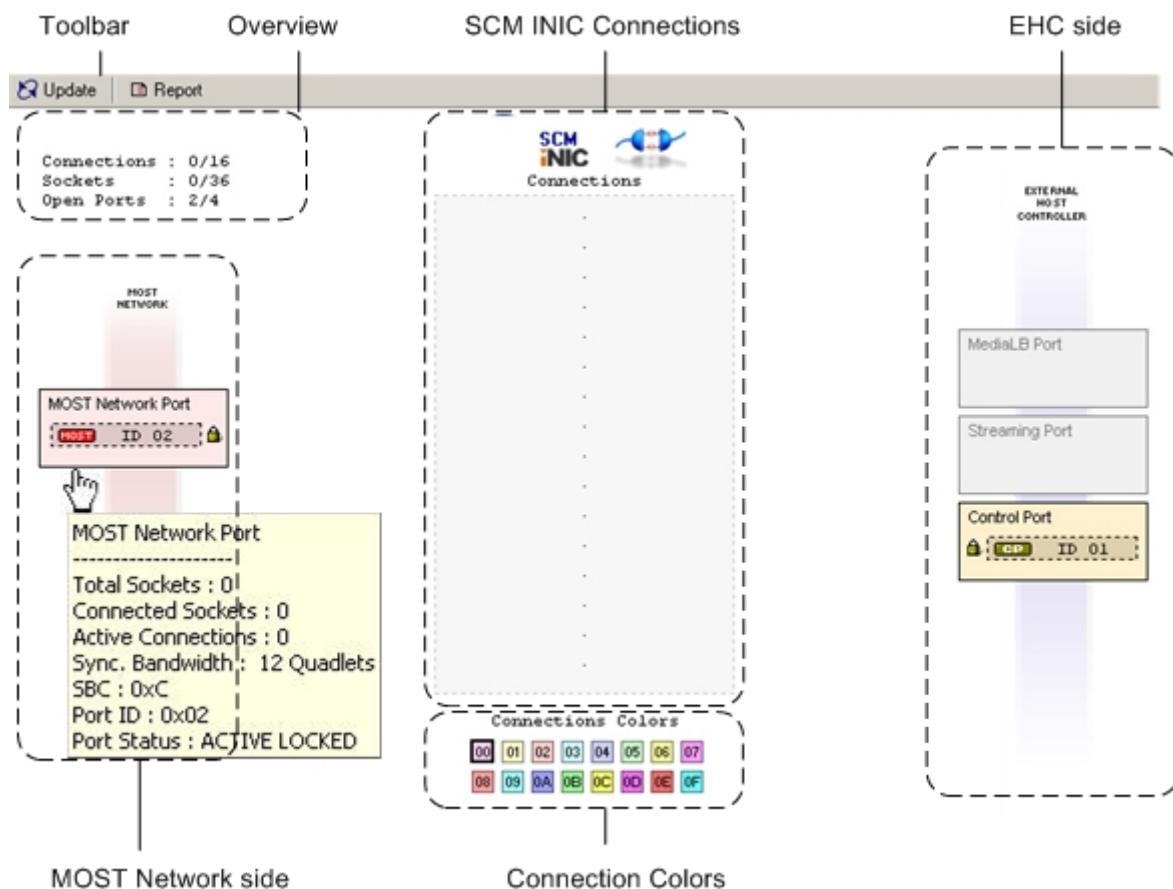
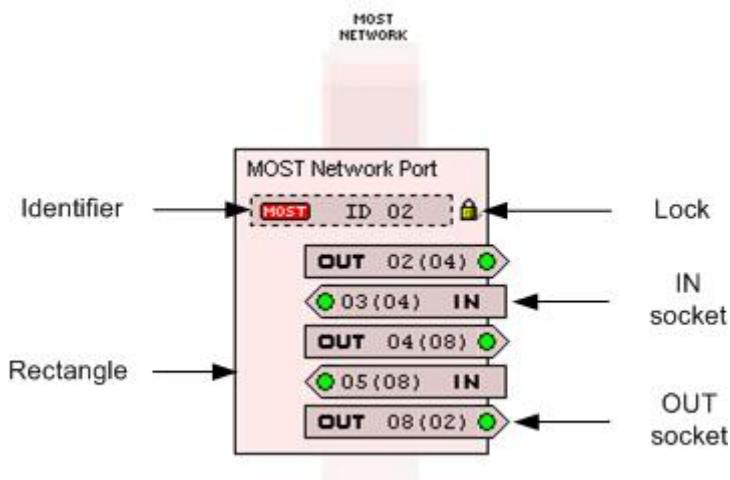
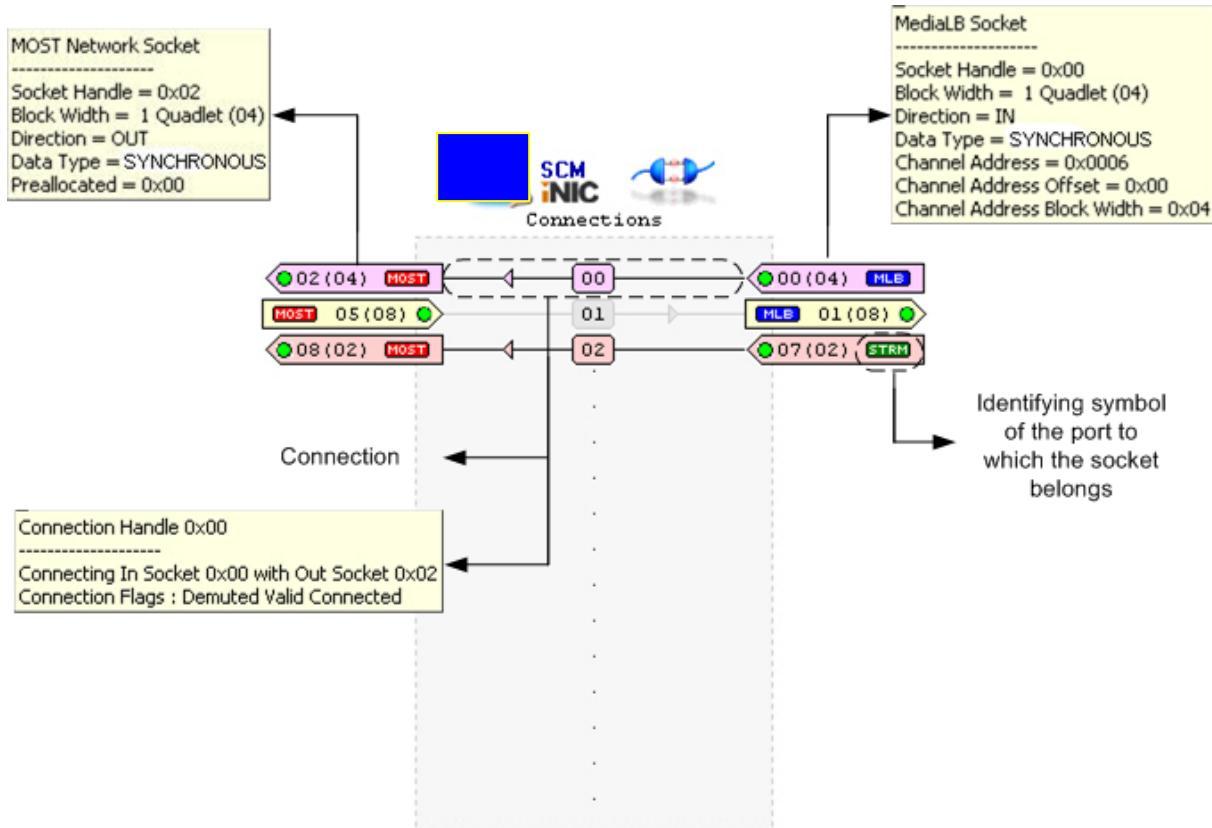
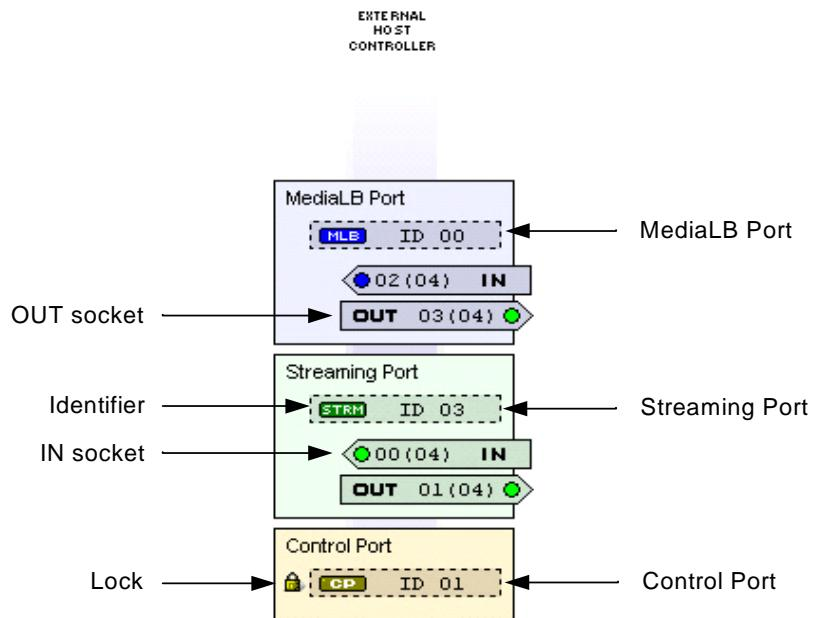

Figure 2-21: Socket Connection Manager Page (e.g.)
Figure 2-25: MOST Network Port
Figure 2-28: SCM INIC Connections
Figure 2-30: EHC Side
The Socket Connection Manager page (See Figure 2-21 on page 23.) is structured in a toolbar and the following areas:
Figure 2-21 below depicts a simple snapshot of a Socket Connection Manager page (MOST Network Port and Control Port are opened) to focus on the interesting areas. More extensive examples are shown in the description of the areas. Opened ports are highlighted in a specific color. Closed ports are presented in gray.
Let the mouse cursor hover over the areas or icons for a moment and a hint is displayed as shown to the left in Figure 2-21.
The MOST Network Port is represented by a rectangle highlighted in a specific color. Inside the rectangle an identifier shows the specific ID (02) and the identifying symbol **MOST** of the MOST Network Port. To the right of the identifier a lock is positioned. It symbolizes that the state of the port cannot be modified. If sockets have been created for the MOST Network Port they are displayed below the identifier. Figure 2-25 depicts a MOST Network Port with five sockets; Figure 2-21 depicts a MOST Network Port without sockets. The rectangle automatically enlarges or shortens according to the number of sockets. There are two kinds of sockets: IN sockets and OUT sockets. The display of sockets is described in section 2.1.5.4.4 on page 26.
The central part in the middle of the Socket Connection Manager page depicts the SCM INIC Connections area. It presents the connections between the MOST network and the EHC if present. In Figure 2-28 there are three connections whereas Figure 2-21 depicts the SCM INIC Connections area without connections.
The OS81xxx can be configured to automatically open the MediaLB Port or the Control Port at power up of the chip. Corresponding to these settings the ports are presented active or inactive. E.g., Figure 2-21 and Figure 2-30 are showing a configuration where the Control Port is disabled and the MediaLB Port is opened automatically. An inactive port is gray colored (e.g., Control Port in Figure 2-30).
Each port has its own identifier showing the specific ID (e.g., ID 00 for MediaLB) and the identifying symbol (e.g., **MLB** for MediaLB). The Control Port presents a lock to the left of the identifier. The lock symbolizes that the state of the port cannot be modified. If sockets have been created for a port they are displayed below the identifier. Figure 2-30 depicts a MediaLB Port with two sockets and a Streaming Port with two sockets. The rectangles automatically enlarge or shorten according to the number of sockets. There are two kinds of sockets: IN sockets and OUT sockets. The display of sockets is described in section 2.1.5.4.4 on page 26.